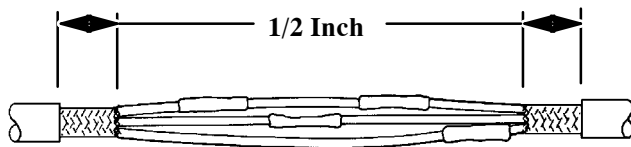

Figure 12. Jacket Peeled Away 1/2 Inch
n. Peel insulation away from cable (Figure 12).